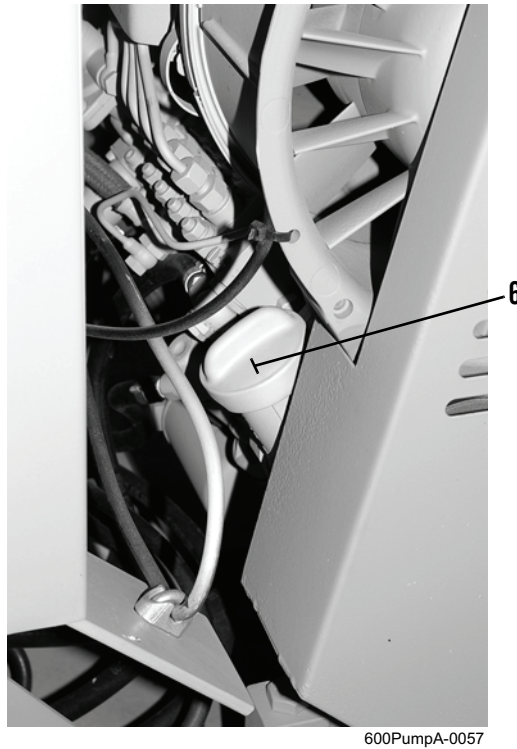

Figure 3. Oil Filler Cap.
1. Clean area around oil filler cap (Figure 3, Item 6) with a clean rag. Remove oil filler cap and add 13.74 qt (13 L) of lubricating oil through filler opening. Ensure correct grade of oil is added IAW expected ambient temperature range of operation. Refer to KEY in WP 0012 for correct grade of oil.